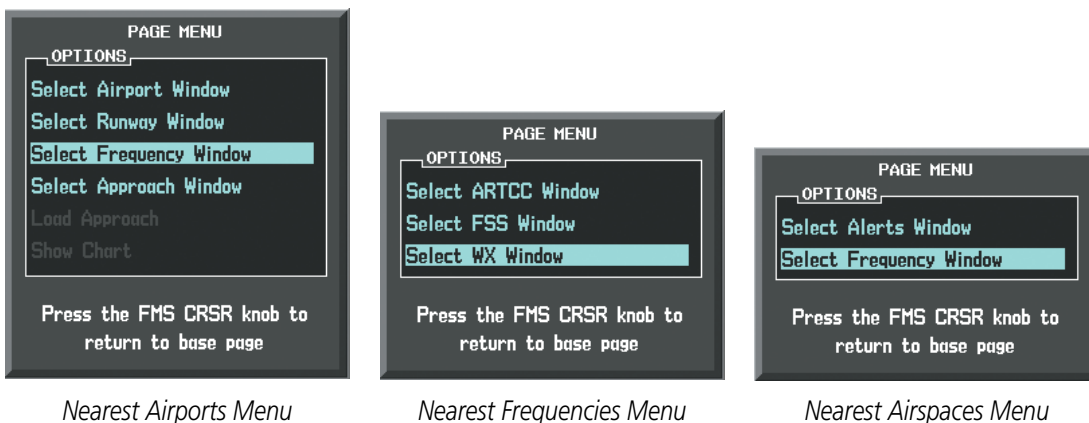

Figure 4-10 Nearest Pages Menus
- 1) On the Nearest Airports, Frequencies, or Airspaces page, press the **MENU** Key to display the page menu (Figure 4-10).